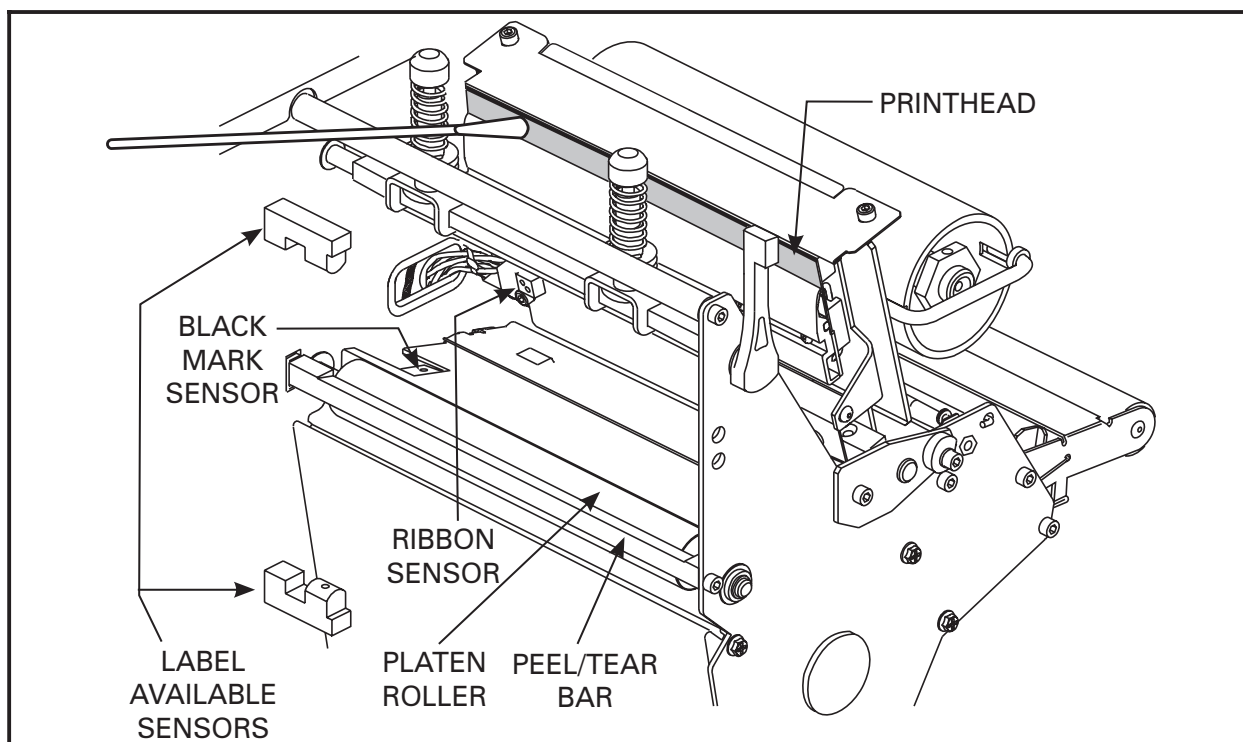

Figure 4.1 Cleaning a Typical Printhead
3. Refer to Figure 4.1. Use a cleaning swab and wipe the print elements from end to end. (The print elements are the grayish/black strip just behind the chrome strip on the underside of the printhead.) Allow a few seconds for the solvent to evaporate.